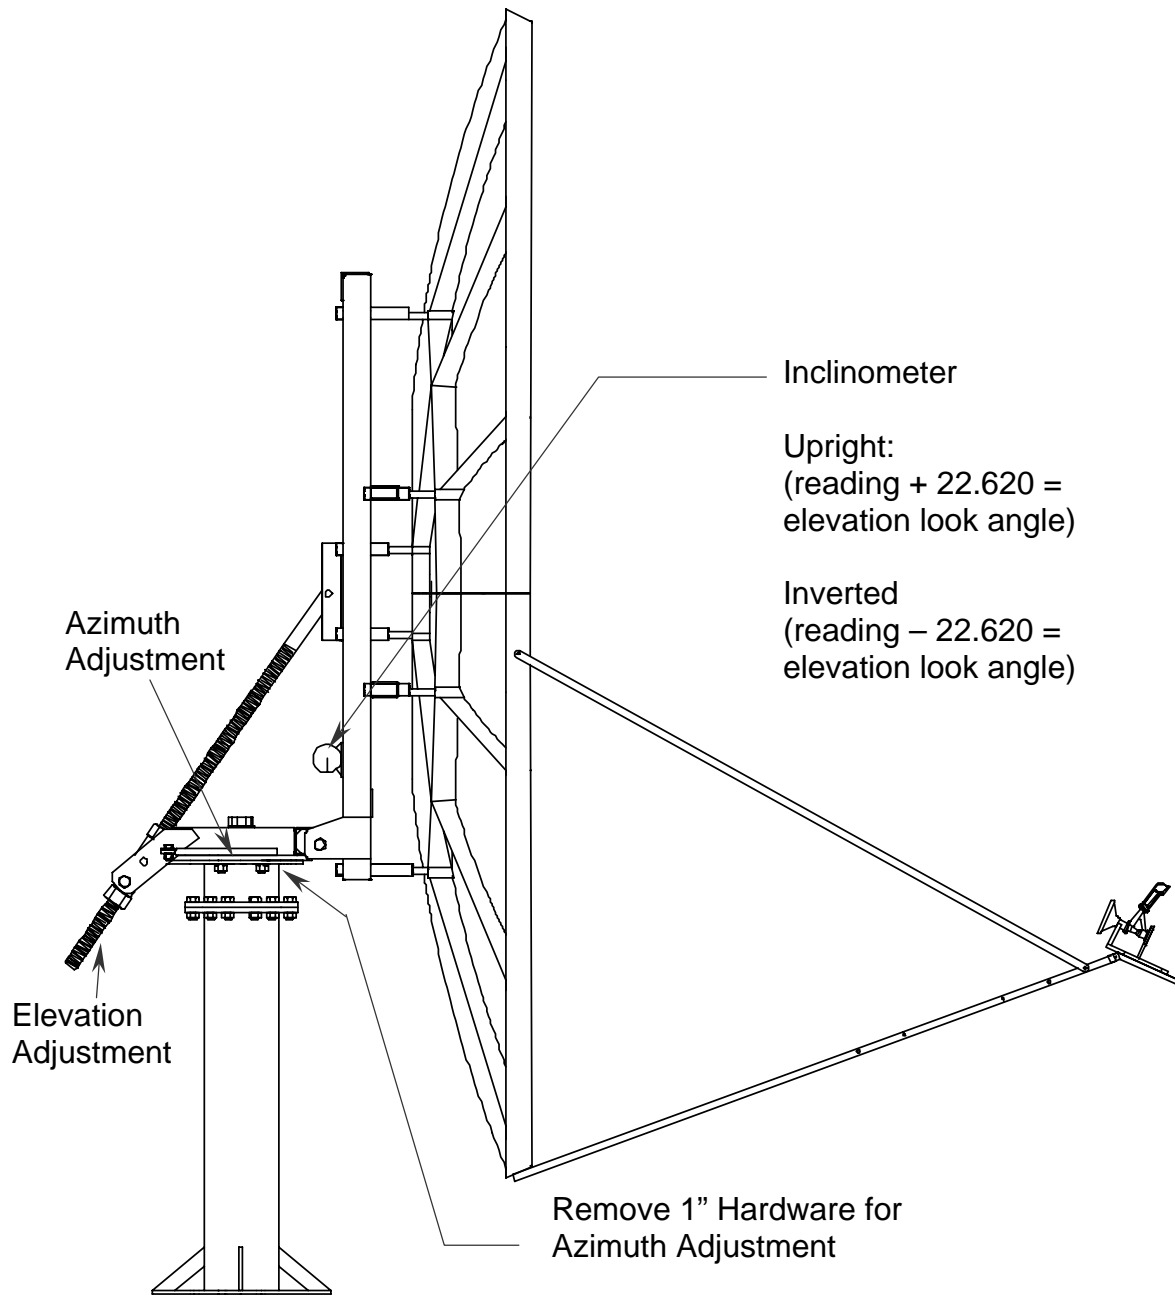

Figure 8
2. After the correct elevation angle is set, rotate the antenna in azimuth by loosening the 2" nut on top of the positioner and removing the 1" hardware (4 places) in the positioner plate, refer to figure 8.